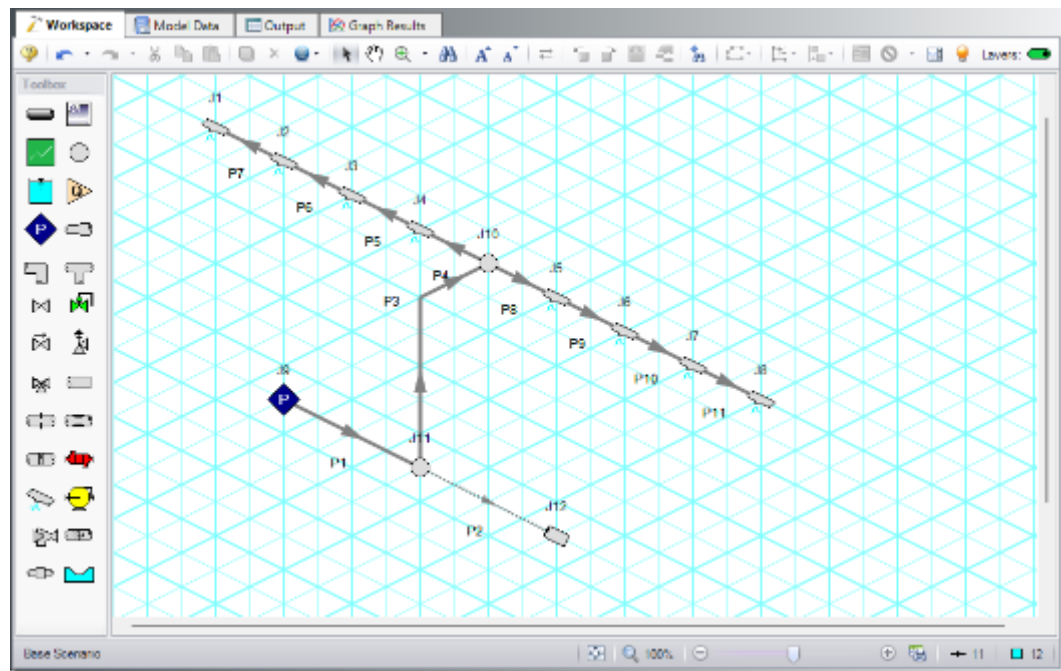

Figure 3.10 Spray discharge system with the isometric grid shown
At times it may be convenient to demonstrate the three-dimensional nature of a system. For example, you may be building a model based on isometric reference drawings. Fathom includes an Isometric Pipe Drawing Mode for these cases. The isometric grid has three gridlines that are offset by 60°, representing the x, y, and z axes. Figure 3.10 shows the spray discharge system built on an isometric grid.
10. Draw Pipes P1 and P2 as shown in Figure 3.10.
12. Draw Pipes P4-P11 as shown in Figure 3.10.
13. Right-click on junctions J1 and J8 and select Customize Icon. Select the appropriate orientation, as shown in Figure 3.10.